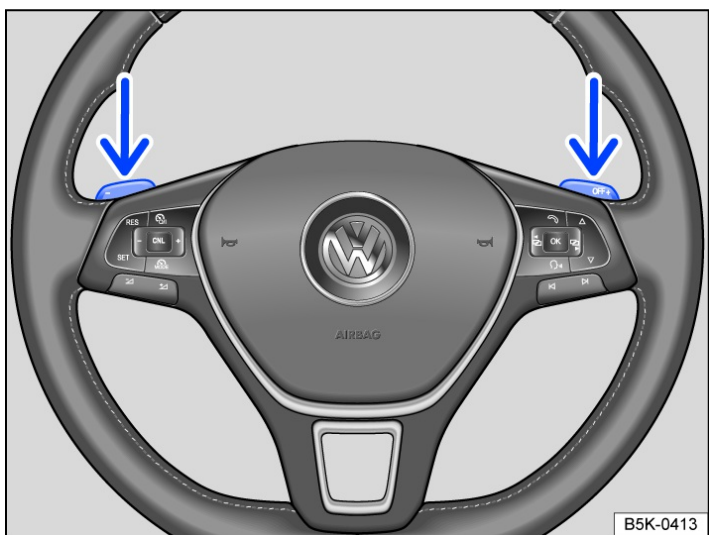

Fig. 2 Steering wheel with paddles for Tiptronic.
- Pull the right paddle towards the steering wheel to change up a gear → Fig. 2.